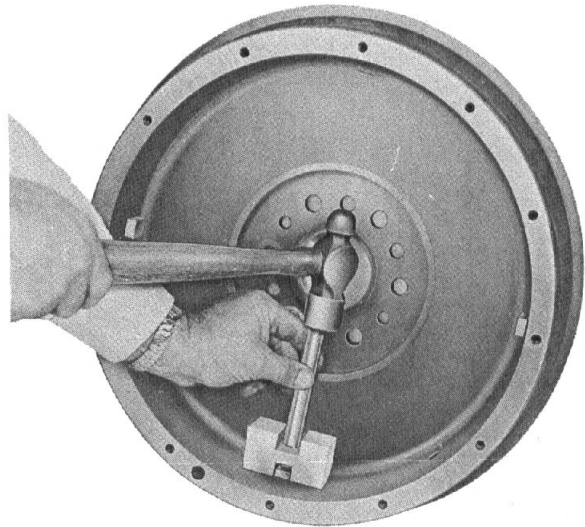
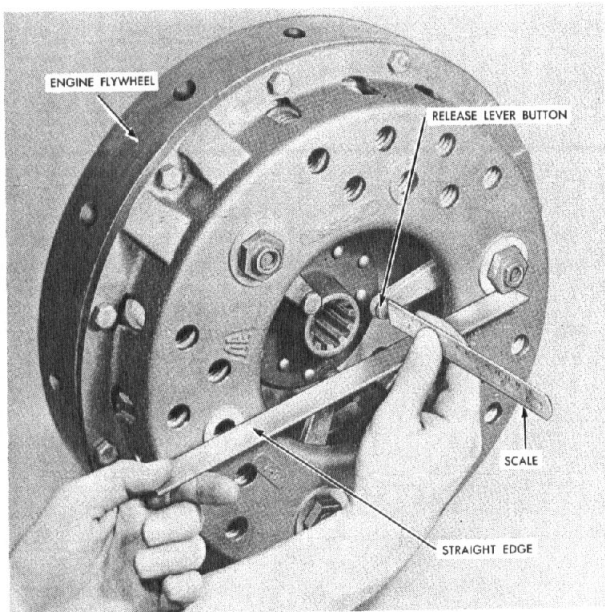

Fig. 17 - Aligning Drive Pins in Flywheel Using Lipe Tool T-10670A.
Fig. 19 - Checking Dimension "A".
(1) The intermediate plate driving pins must be removed if the flywheel is to be machined. Replace drive pins when replacing clutch.
(2) The driving pins must be installed with the contact face perfectly square to the friction face of the flywheel. To assure perfect alignment, it is recommended that a tool (Lipe T-10670A) be used. (Refer to Fig. 17). If this tool is not available, place a machinist square firmly on the rim of the flywheel and make sure the contact face of the driving pins have even contact with the square (Fig. 19 and 20, page 16).
(3) The 14" two plate type DP clutch driving pins are held in place by lock nuts on the threaded end projecting through the flywheel which must be securely tightened. The 15" two plate driving pins should be locked in place by cup point Allen screws located in the bottom of the tapped holes used for attaching the cover assembly to the flywheel. After the driving pins are properly aligned and secured and a new pilot bearing installed, you are now ready to install the clutch into the flywheel. It is essential that a splined shaft of the correct size for the pilot bearing and driven discs be used to align the driven discs before the cover assembly is attached to the flywheel.
(4) Two-plate driven discs that are identical and interchangeable are marked "intermediate plate side" to indicate their proper positioning. Those driven discs that are not identical and/or interchangeable are marked "Pressure plate side" or "Flywheel side" to indicate proper position.
(5) Install the flywheel side disc in the flywheel and then place the intermediate plate on the driving pins and check for lash or free play at the driving slots. The intermediate plate should fit over the driving pins with a clearance of not less than .007" at the contact faces which will permit free movement of the intermediate plate. If the clearance exceeds .012", the intermediate plate may cause some noise when the clutch is disengaged.
(6) With the splined alignment shaft holding the driven discs in position the cover assembly can now be attached to the flywheel. Attaching cap screws should be evenly tightened until the cover is drawn tight to the flywheel. New cover assemblies have either wooden blocks positioned between the release levers and the cover or hold down bolts which facilitate assembly to the flywheel. Make sure these blocks or hold down bolts are removed after installation of cover assembly.
(7) After the wood blocks or hold down bolts and splined alignment shaft have been removed, the "A" dimension should be checked to assure the proper seating of the cover assembly to the flywheel. See Fig. 19 and 20 on page 16 and chart on pages 26-28.
(8) Care should be used in installing the transmission to prevent bending or otherwise impairing the disc assembly which will cause clutch drag.